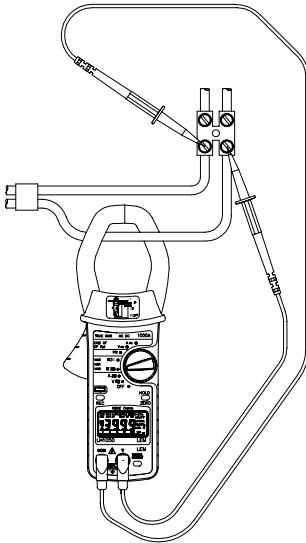

Fig. 4
- Press the trigger to open the jaws, and clamp them on the current carrying conductor, as shown in Fig. 4
- When configured to measure power (Fig. 4) with the test leads connected and the jaws clamped around a current carrying conductor, the instrument displays the frequency of the current source (providing ARMS > 1A). If ARMS < 1A, a volts frequency measurement will be made (providing VRMS > 10V), otherwise ---.- will be displayed